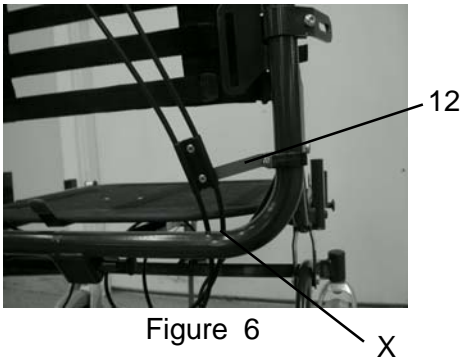

Figure 6
7. Fit the wire holder (12) to the back frame as shown in Figure 6 and press the wires to secure them to the control unit. NB! Check that the wires are inside of (in front of) the backrest bar, see X in Figure 6.